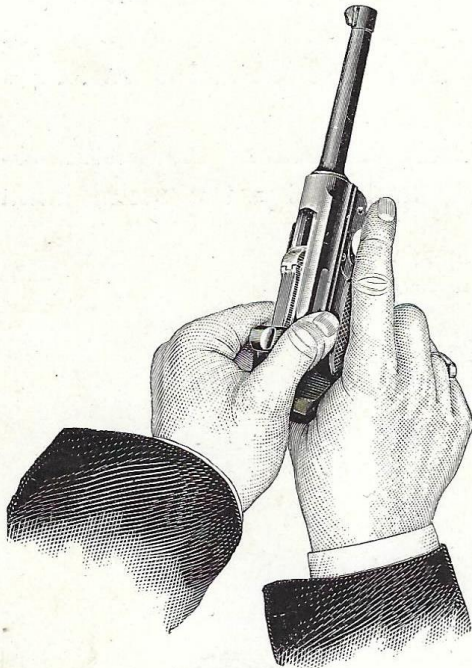

Fig. 3.
- Fig. 3. shows the result obtained from a "Parabellum" pistol with a charge reduced by 10%;
There is so much advantage in a bullet of greater velocity and higher relative energy that, as fig. 3 shows, even with a smaller charge and a velocity thereby reduced to 300 m, whereat the absolute energy drops to 27,5 mk as against 34,6 of the Smith & Wesson revolver, — that even then the spreading effect of the bullet appears greatly superior.
the trigger guard, the barrel pointed horizontally forward, the breechblock toward the left, grasp firmly (see fig. 3) the two cheeks of the toggle joint with the **thumb** and the first finger of the left hand (not merely hooking the fingers into them) **jerk back in a straight line** (not in an upward direction) until the face of the breechblock stands **behind** the uppermost cartridge in the magazine; then let it spring forward ab-